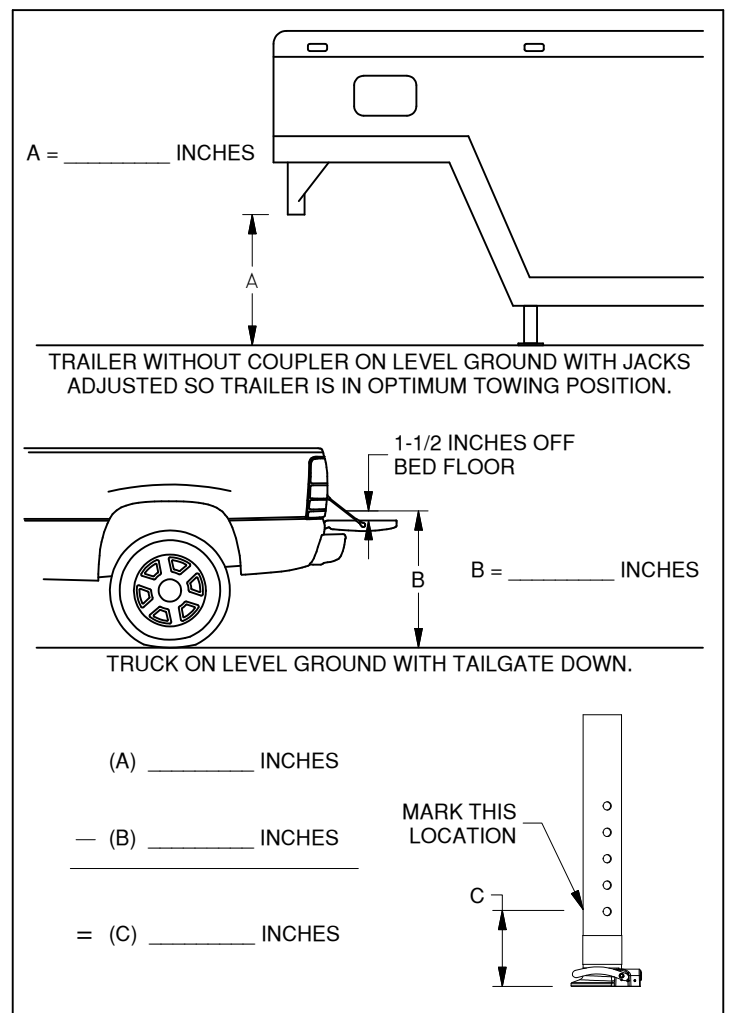

Figure A3: Coupler height determination.
2. **Mark coupler.** With the trailer jacks adjusted so the trailer is in its optimum towing position, determine the distance between the bottom of the trailer sleeve and where the bottom of the coupler will be when coupled to the ball. See figure A3. Mark this position on the coupler.